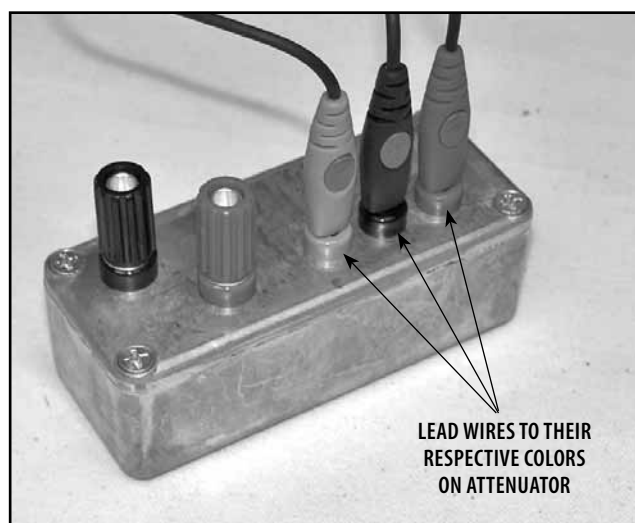

FIGURE 5.32
4. Connect the Channel 1 sEMG lead wires into the Attenuator. Make certain each sEMG Lead is connected to its respective color on the Attenuator. See Figure 5.32.